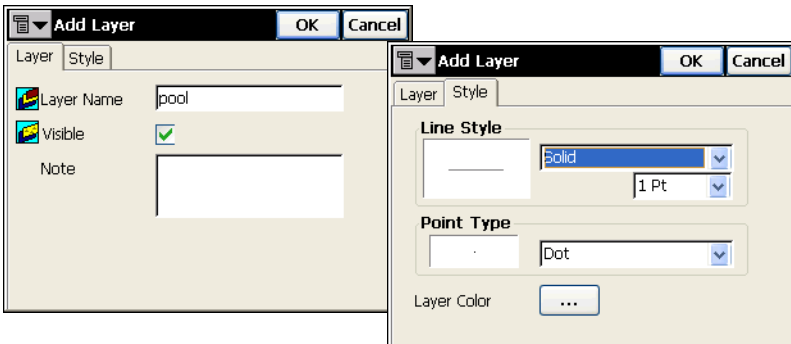

Figure 4-24. Add Layer
- To add a layer, tap the **Add** button in the *Layers* screen. On the *Add Layer* screen, enter the layer's parameters and tap **OK** (Figure 4-24 on page 4-20). The layer will be included in the list of layers.